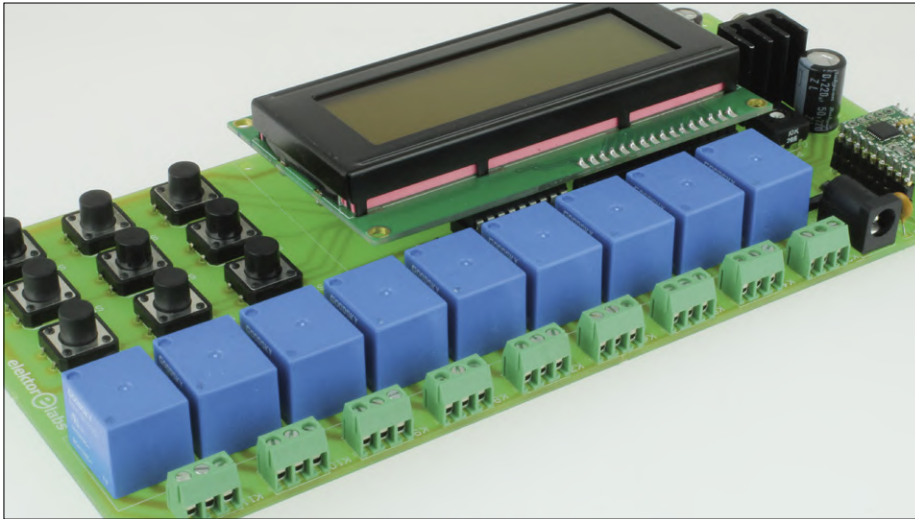

Figure 2: Each of the nine relays has a normally-open (NO) and a normally-closed (NC) contact made accessible through a 3-pin terminal.
normally-open (NO) and normally-closed (NC) contacts (**Figure 2**), loads that are supposed to be active 50% of the time or more should be connected to NC contacts to save a bit of energy.